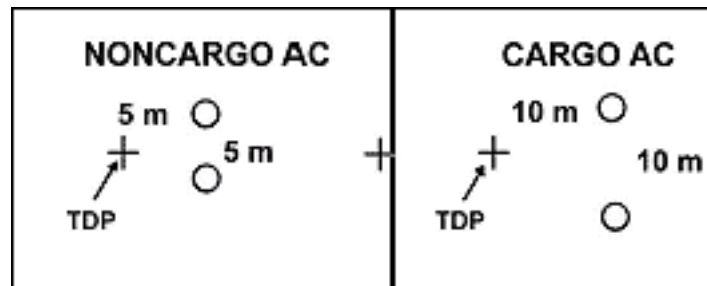

Figure 4-15. Placement of additional touchdown point markings for night use.
c. At other touchdown points, helicopters land with the right landing gear or skid just to the left of the light (Figure 4-15). Until the last practical moment, pathfinders hood or turn upside down all lights for security. They also place a signalman at a sling-load point. Then, they beam the lights in the direction from which the helicopters approach.